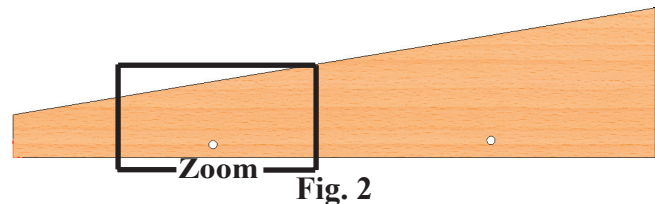

Fig. 2
- Step 3. Use the **Zoom to Area**  in the View toolbar to drag a zoom window around the **front of the body at the axle hole**, **Fig. 2**.